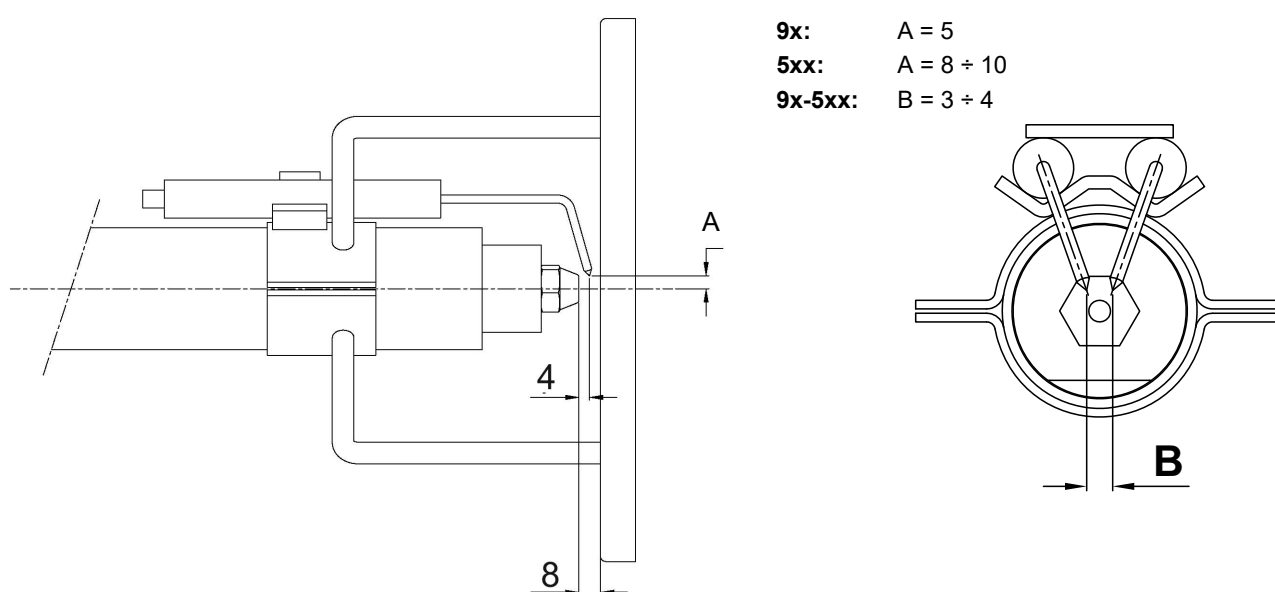

Fig. 5
- 4 loose screw (B) that fasten the ignition electrodes;
- 5 remove the electrodes and replace them, referring to the values quoted on Fig. 5.